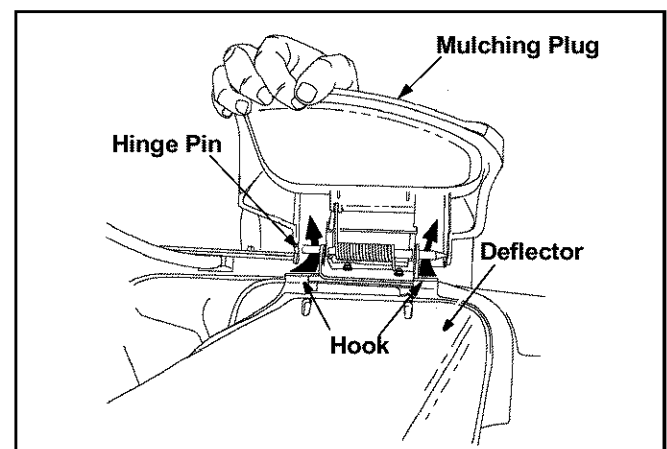

Figure 8
- On the side of the mower, lift the mulching plug and slide the two hooks of the side discharge chute under the hinge pin on the mulching plug assembly. Lower the side mulching plug. See Figure 8.